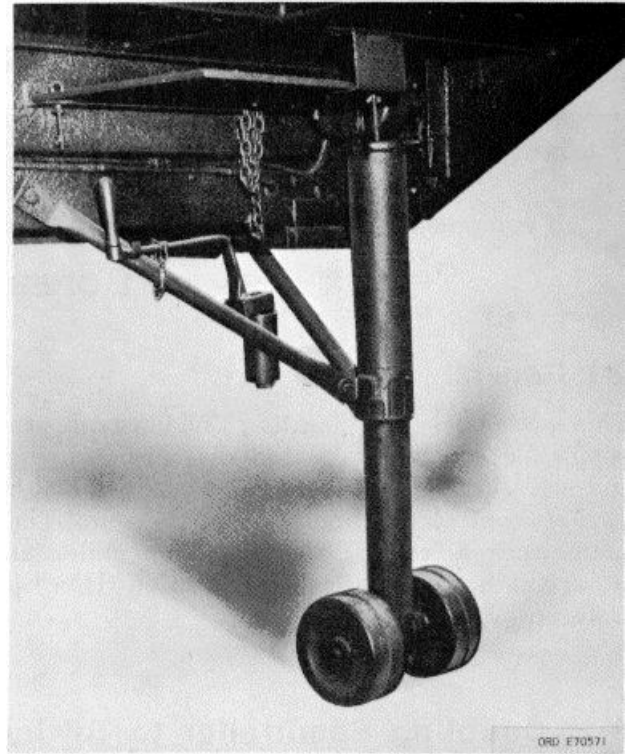

Figure 2-1. Landing gear, XM574, XM574E1, XM680, XM680E1, XM738, XM739, XM739E1, XM822, XM823, XM824, XM844, XM845
(1) Doors Open and close all doors to check operation of hinges and latching mechanism.
a. The operating crank is located on the outer side of the landing gear and to the rear of the kingpin (figs. 2-1 and 2-2).